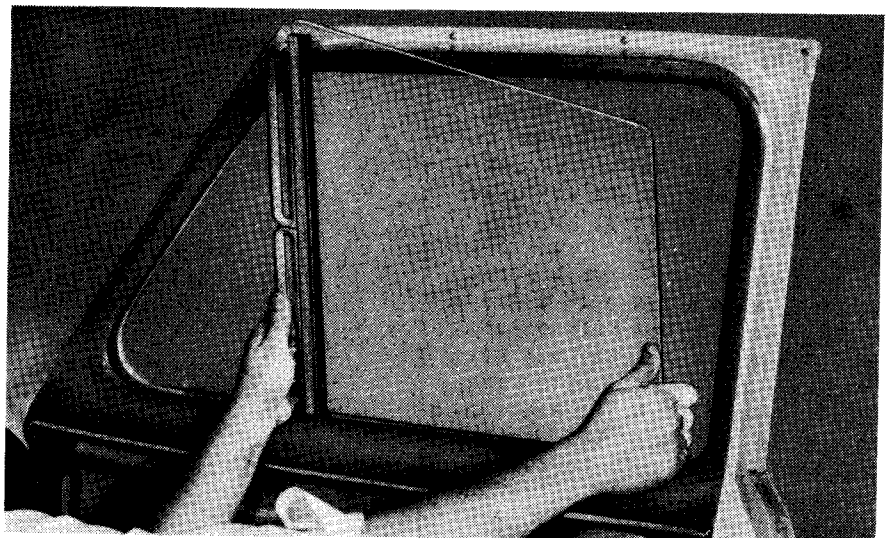

FIG. 22
14. Turn the window 90° and remove it from the door (see Fig. 22).